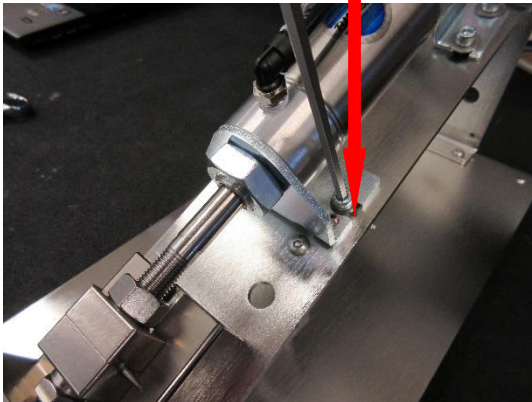
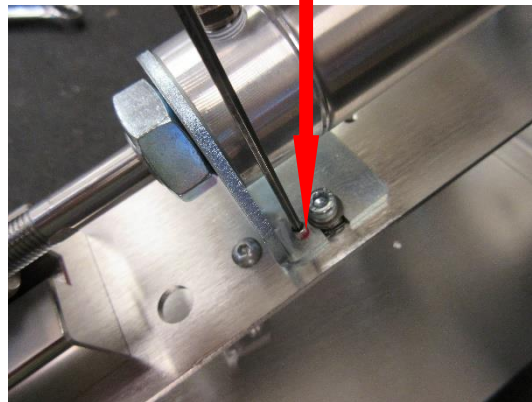

Figure 3.4.11
Figure 3.4.12
- **Note:** If the cylinder shaft won't retract when being cycled the adjustment of both set screws on the front cylinder mount bracket will need to be adjusted. To make the adjustment you must first loosen the two 5x12mm screws using a 3mm hex wrench (*Figure 3.4.11*) and then by adjusting the two set screws using a 3/32nd hex wrench. *Figure 3.4.12*. Now tighten the two 5x12mm screws and ensure jaw alignment.